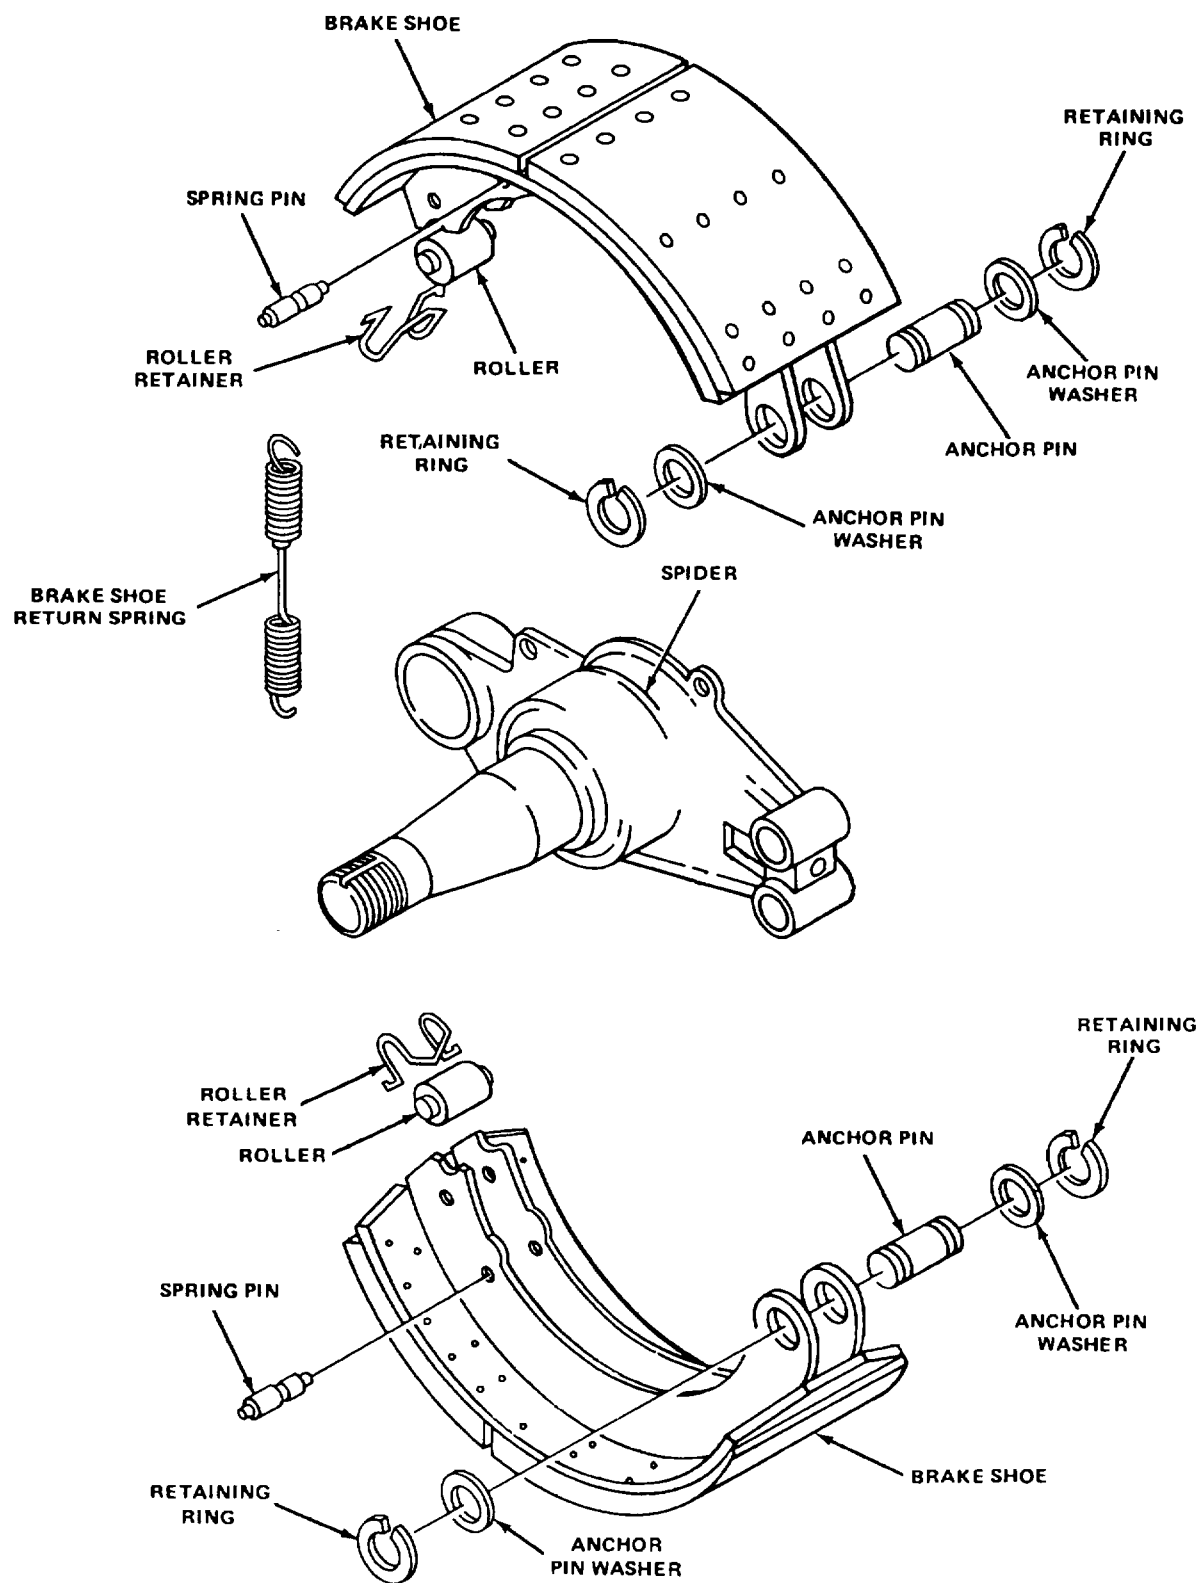

Figure 4-47. Removing and Installing Brake Shoes
(1) Remove wheel and drum assembly, para 4-51.
(2) Using brake spring pliers, remove brake shoe return spring, fig. 4-47.
(3) Remove anchor pin retaining rings and anchor pin washers.
(4) Drive upper and lower anchor Pins from rear of brake shoe.
(5) Remove brake shoes.
(6) Remove roller retainers and rollers from brake shoes.
(7) Remove spring pins from brake shoes.
(1) Install spring pins on brake shoes. fig. 4-47.
(2) Install rollers and roller retainers on brake shoes.
(3) Place brake shoes into position on brake spider, and install upper and lower anchor pins and anchor pin washers.
(4) Install anchor pin retaining rings on upper and lower anchor pins.
(5) Using brake spring pliers, install brake shoe return spring.